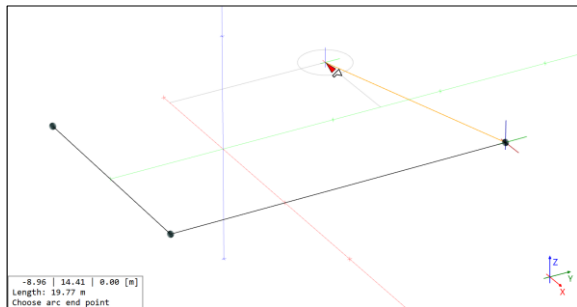

Figure 7.14 Setting the end point of the arc after activating the submode.
2. The end point of the arc (Figure 7.14). This is the first location that has to be chosen after activating the arc submenu. It can be at any 3D coordinates.